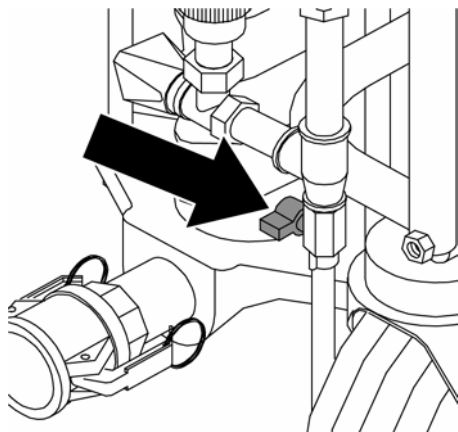

Fig. 53: Drain cock
7. Open the drain cock (Fig. 53/arrow) on the water fitting.